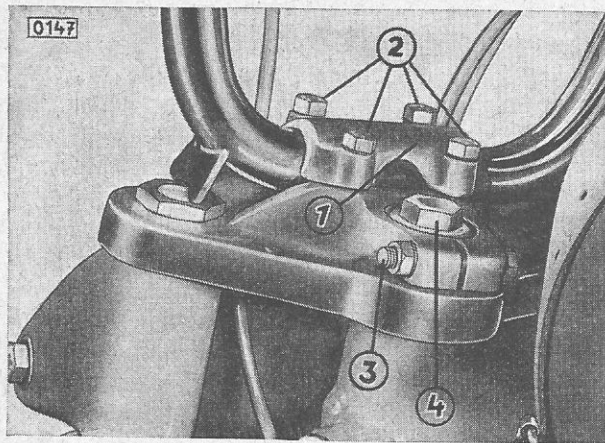
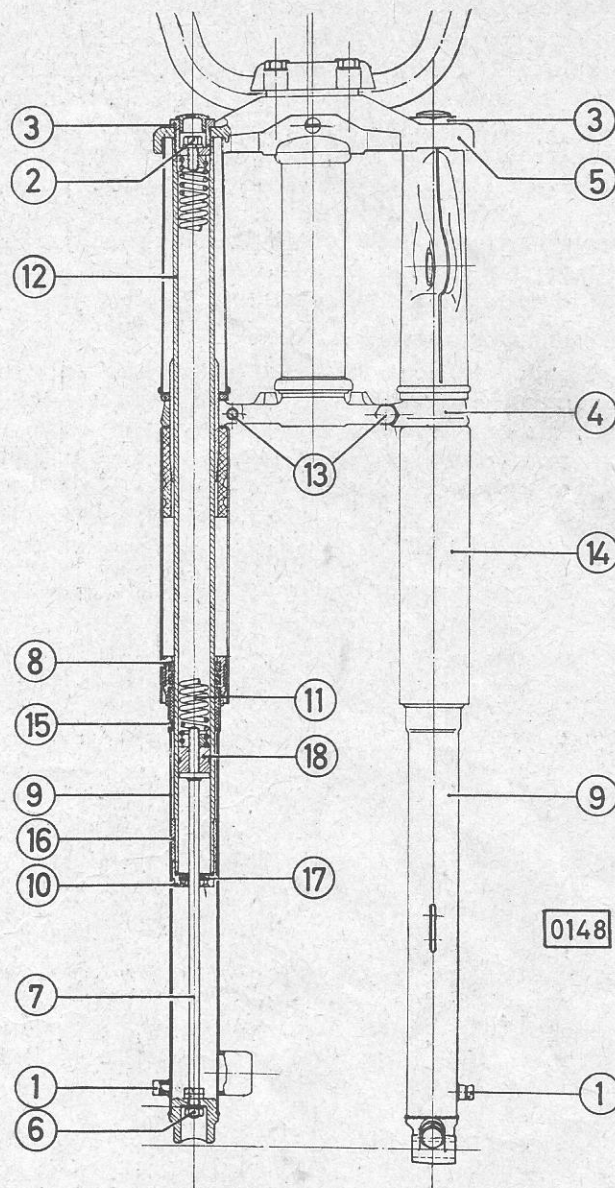

Fig. 20: Mounting the handlebar:
Fig. 21: Front wheel springing:
The Handlebar (fig. 20)
4. Unscrew cover (fig. 20/1) of fork lug and take off handle bars. Mounting is done inversely.
Unscrew the two oil drain plugs (fig. 21/1) and remove gaskets, drain oil. It is recommended to press fork down during this operation. When all oil is out, 100 c. c. SAE 30—40 motor oil for each part are pressed into the two oil drain openings (fig. 21/1) by means of a grease gun. Then quickly mount the oil drain plugs and tighten.
7. Unscrew the two screws (fig. 21/2) and the two fastening screws of the fork parts (fig. 21/3). Slacken the binding screw (fig. 20/3) of the top fork lug and the screw at the steering head (fig. 20/4).
8. Hold fork at bottom fork lug (fig. 21/4) and remove carefully top fork lug (fig. 21/5). Remove top dust cover and bearing washer and take out fork downwards. Take care not to lose any balls (21 each).
1. Unscrew the two hexagon nuts (fig. 21/6) on the spring bolts (fig. 21/7)
2. Unscrew the grooved shells (fig. 21/8) from the two sliding tubes (fig. 21/7), pull off the two sliding tubes.
3. After slackening the two bottom fork parts screwings (fig. 21/10), remove pressure springs (fig. 21/11) from fork part tubes (fig. 21/12).
4. Slacken the two binding screws (fig. 21/13) and knock out the fork part tubes upwards out of the bottom fork lug. At the same time the facing tubes (fig. 21/14) are released.
needs not be taken out only the sliding tube and the spring are removed, after unscrewing the hexagon nut (fig. 21/2), the grooved sleeve (fig. 21/8), the nut (fig. 21/6) and the top fork part screwing (fig. 21/10). For this purpose, the front wheel, the mudguard and the handlebars must be removed beforehand as well as the oil drained. You should not take out a complete fork part without previously stripping the fork lugs.
Before reassembling, check the various parts and replace those that are damaged. Gasket and felt ring should be replaced after every disassembling operation. The pressure springs should be replaced only by twos. Check sleeves (fig. 21/15) and (fig. 21/16), replace when radial play is 0.7—0.8 mm. Also check tightness of valve (fig. 21/17) and piston (fig. 21/18) every time you reassemble. Once the fork is reassembled, fill in 100 c.c. motor oil for each fork part.